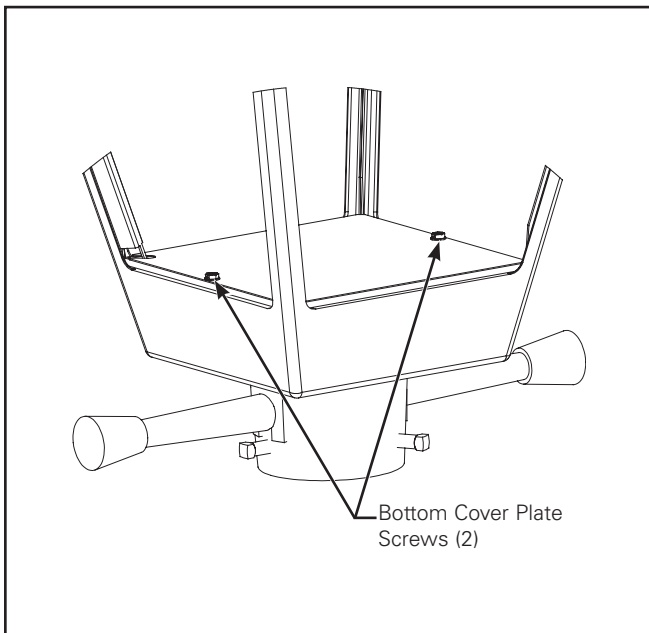

Figure 1.
1. Unscrew two screws using 5/16" nut driver or #10 Phillips head driver from bottom cover plate located at fixture base. (Figure 1.) Remove bottom cover plate to gain access to the wiring compartment.